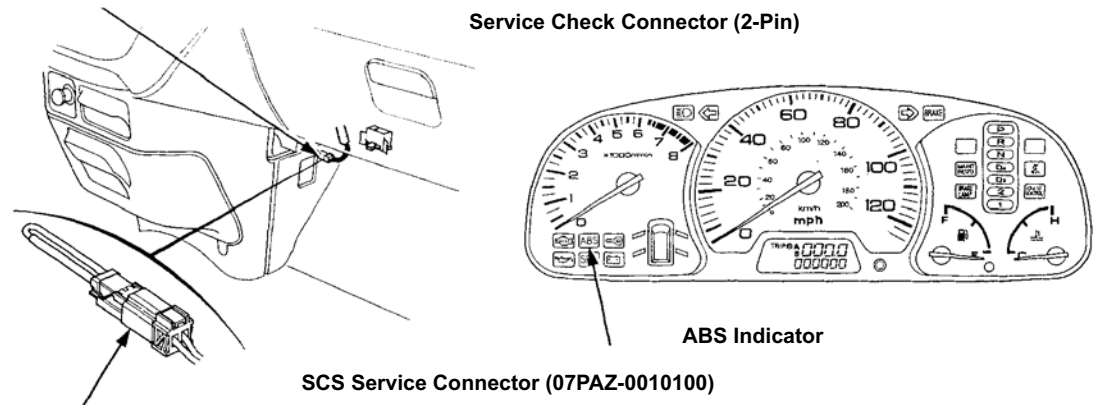

Figure 10-23 1996-1999 Isuzu Oasis ABS service check connector location
The diagnostic connector and warning lamp locations are shown in (Figure 10-23).
- The SCS check connector or jumper wire must be connected to the 2 pin service connector before the ignition switch is turned on. See Figure 10-23 on page 109 for connector location.
1. Connect the SCS service connector to the 2-pin service connector located under the glove box. (See Figure 10-23 on page 109)